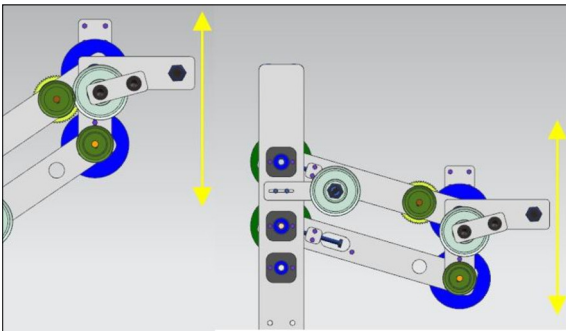
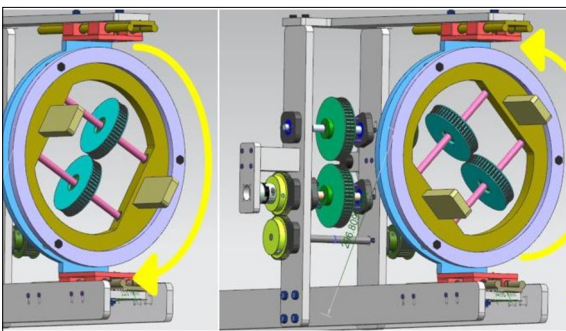

Figure 2: First conveyor belt section - upwards & downwards motion (conveyor belts not displayed)
Figure 3: Second conveyor belt section - torsional motion (conveyor belts not displayed)
2. The transfer of the fiber bundles over a pulley from one conveyor belt section to the next while the conveyor belt sections are rotated around a torsional axis (Figure 3) and a revolute axis (Figure 2).